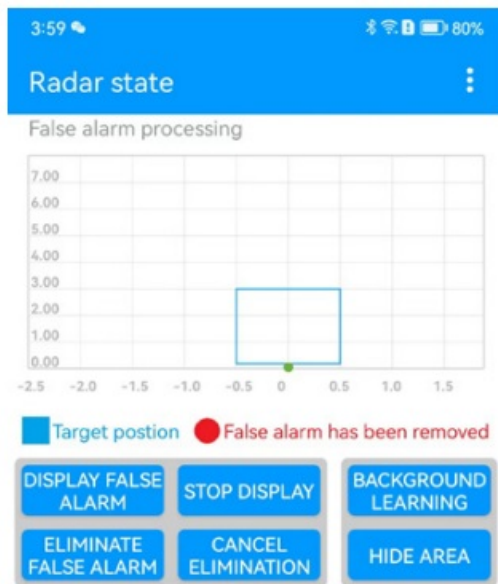
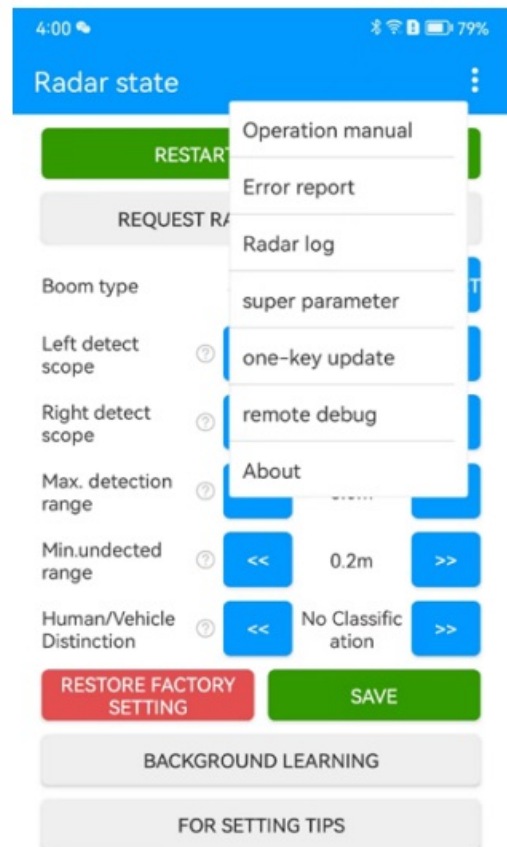

Figure 10
Figure 11
- After connection, select radar mode, as shown in Figure 6, and enter the app interface as shown in Figure 8, Figure 9, Figure 10, and Figure 11.